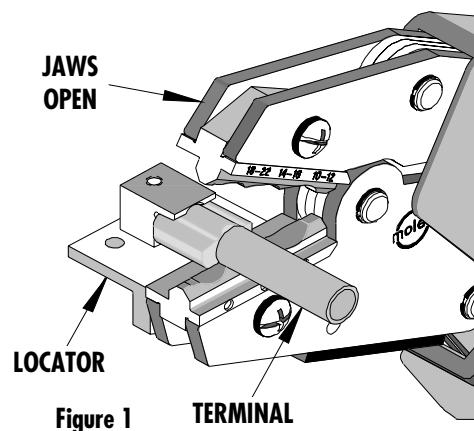

Figure 1
3. Place the terminal into the locator and push until the terminal is flush against the locator face shown in Figure 1.